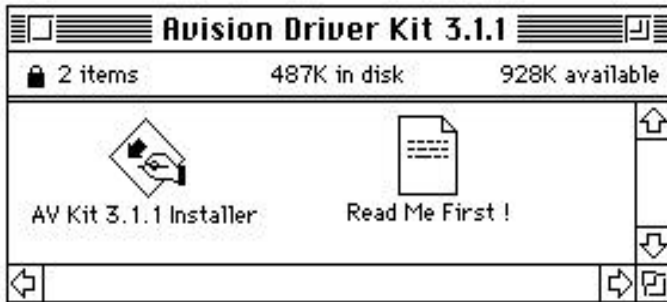

Figure 3-1 Avision Driver Kit 3.11
3. Insert "Avision PaperCom Supreme" into your CD ROM drive. The Avision Driver Kit 3.X.X dialog box as Fig. 3-1 will appear. Read "Read Me First" for some valuable information which you should note.